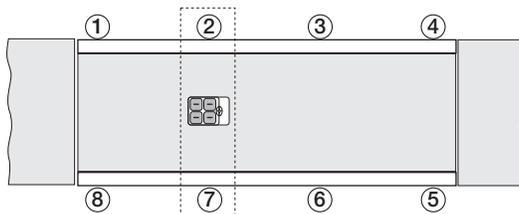

Figure 6-7. Trimming Paired Sections 2:7, 3:6, and 4:5.
- Move the weight cart directly over the next paired cell section (2, 7 in Figure 6-7) and record the indicator reading.